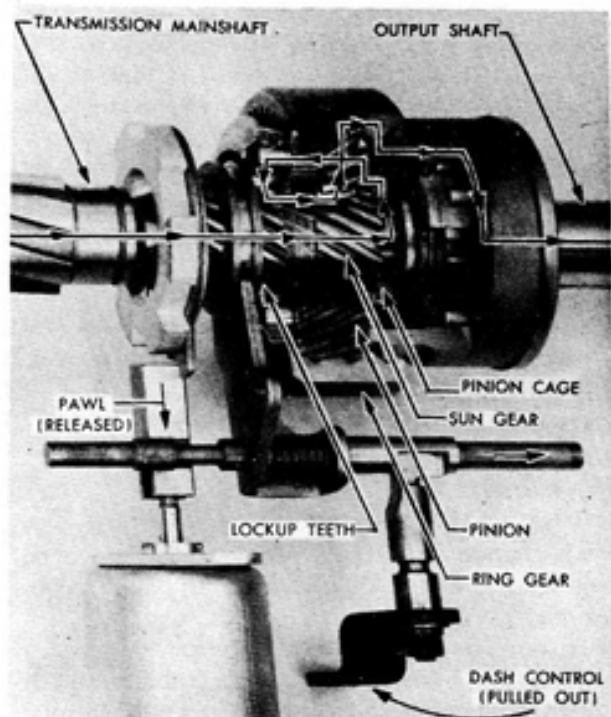

Figure 8.
a. Although the normal procedure is to operate the unit as above, taking advantage of the free-wheeling and the overdrive, there are times, as when descending long, steep grades, where it may be desirable to use the frictional drag of the engine as a brake. Under such circumstances, the overdrive dash control may be pulled out, swinging the control lever (Fig. 8) forward, thus moving the shift rail and shift fork backwards, shifting the sun gear so that the lockup teeth will engage the corresponding teeth of the pinion cage. This causes the entire group of working parts